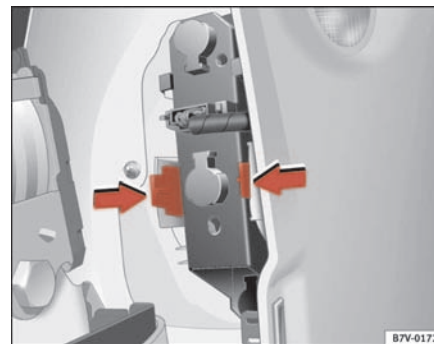

Fig. 165 Lights on vehicle body
- Press the side tabs in the direction of arrow ⇒ fig. 165.